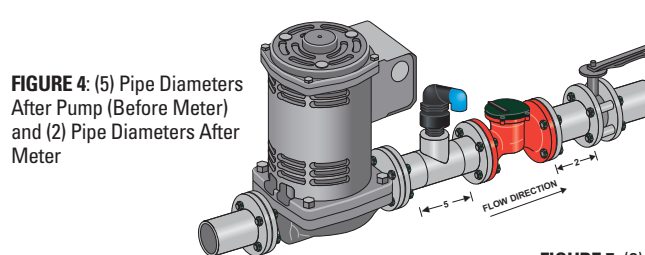

FIGURE 4: (5) Pipe Diameters After Pump (Before Meter) and (2) Pipe Diameters After Meter
- Five (5) diameters of straight pipe downstream of a pump (before the meter) and Two (2) diameters of straight pipe downstream of the meter are required. (See Figure 4)